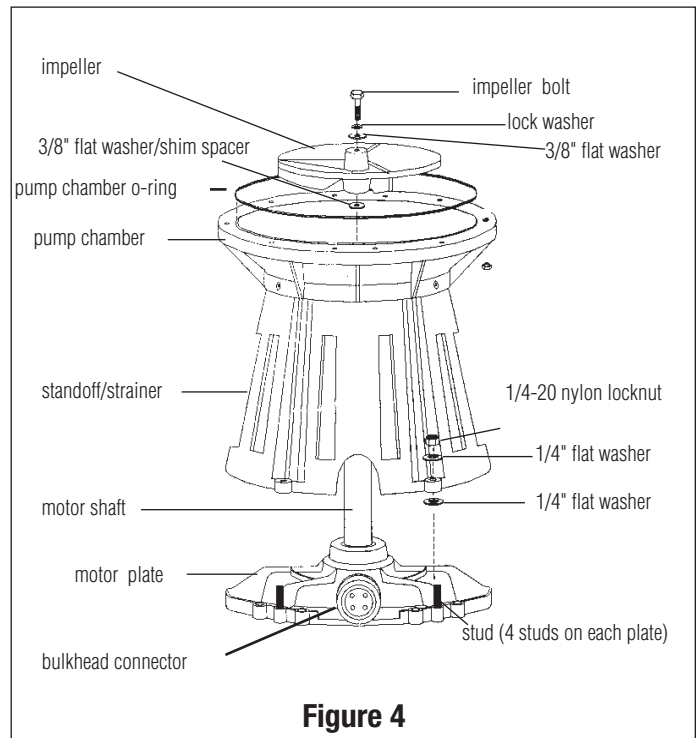

Figure 4
NOTE: Not all units have spacer shims. See Figure 4.
5. Remove the pump chamber and standoff strainer from the motor unit by removing the (4) 1/4-20 nylon locknuts from the studs attached to the motor plate. Lift off the assembly. See Figure 4.
NOTE: Be sure to align the pump chamber and stand off strainer to the studs on the motor plate See Figure 4.